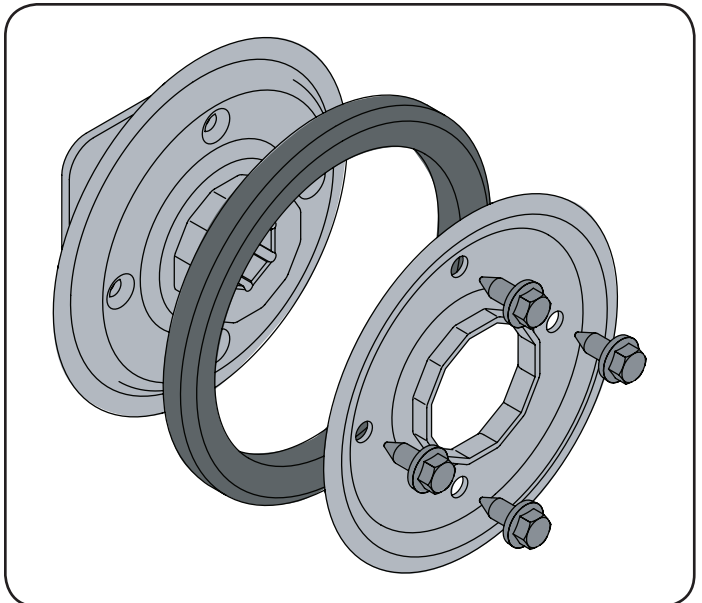

Figure 30
1. Remove the four screws which secure the friction wheel's side plates together. See Figure 30.